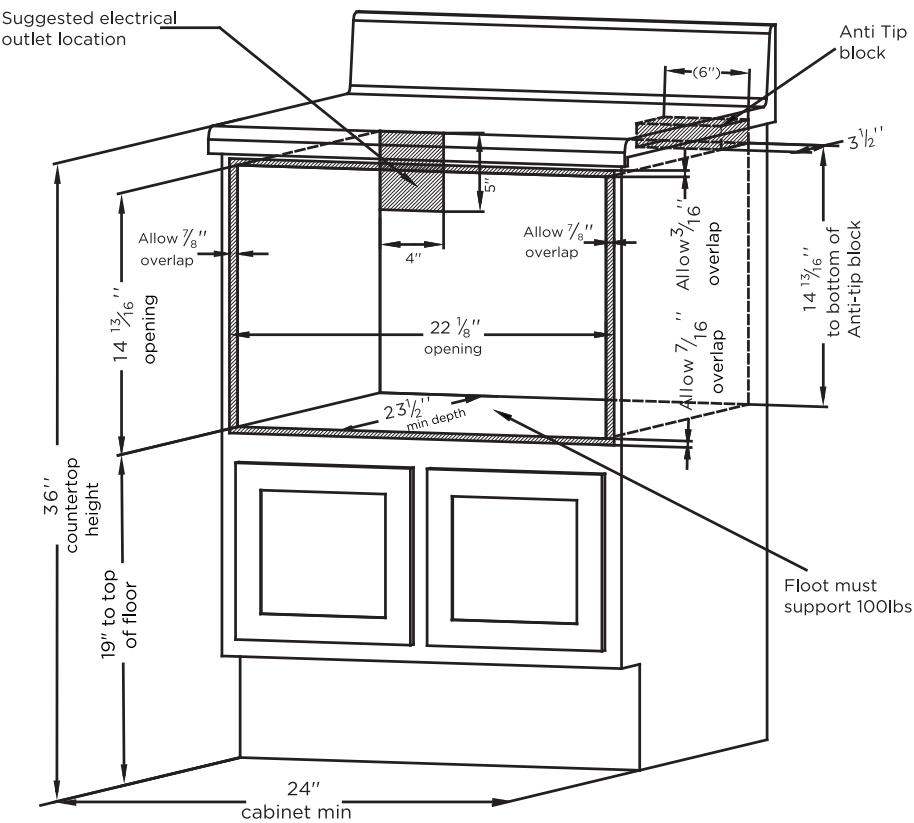
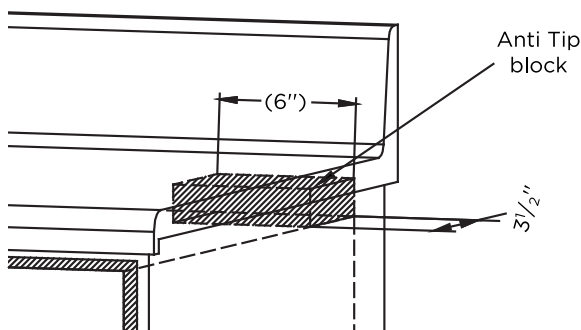

Figure 1
Figure 3
For SAFETY CONSIDERATIONS do not install drawer in any combustible cabinetry, which is not in accord with the stated clearances and dimensions on pages **15**. See Figure 1.
- Dimensions that are shown in Figure 1 must be used. Given dimensions provide minimum clearance. Locate electrical outlet in the shaded area in the upper left-hand corner of the cutout. See Figure 3.
Figures 1 and 2 contain many Microwave Drawer measurements for reference when planning the drawer's location. This Microwave Drawer can be installed below any electric or gas wall oven.
ANTI-TIP BLOCK INSTALLATION INSTRUCTIONS To reduce the risk of tipping of the drawer, the Anti-Tip block must be properly installed located 14 13/16-inches above the floor on which the Microwave Drawer will sit. The 6-inch Anti-Tip block must be provided by the installer. See Figures 1 and 3. The Anti-Tip block prevents serious injury that might result from spilled hot liquids.